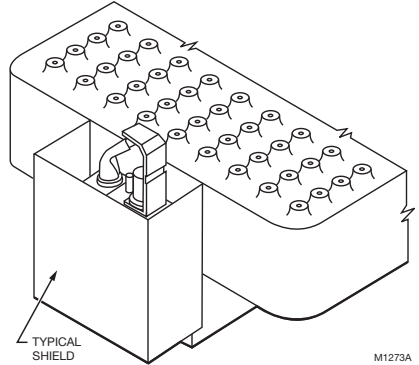

Fig. 6. Proper shielding of pilot flame.
- If all mounting and location instructions are followed but pilot continues to go out, construct shielding to protect pilot flame from main burner ignition and extinction and drafts. See Fig. 6.